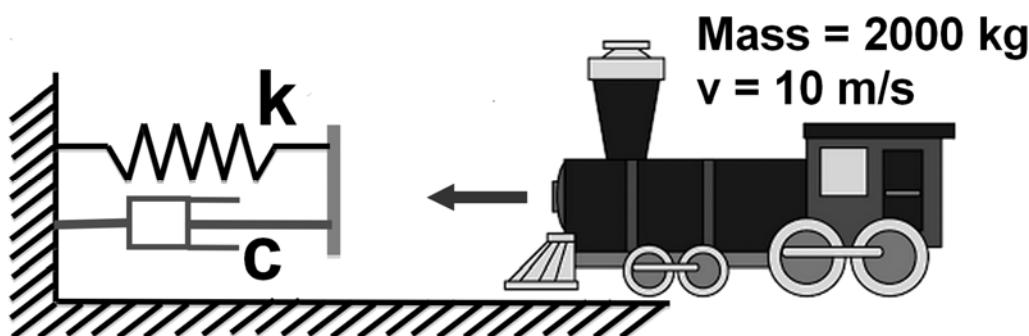

Figure Q2(a)
2. (a). A locomotive with mass of **2,000 kg** traveling at a velocity **$v = 10 \text{ m/s}$** is stopped at the end of the tracks by a spring-damper system, as shown in **Figure Q2(a)**. If the stiffness of the spring is **$k = 80 \text{ N/mm}$** and the damping constant is **$c = 20 \text{ N-s/mm}$** . Determine the system's: